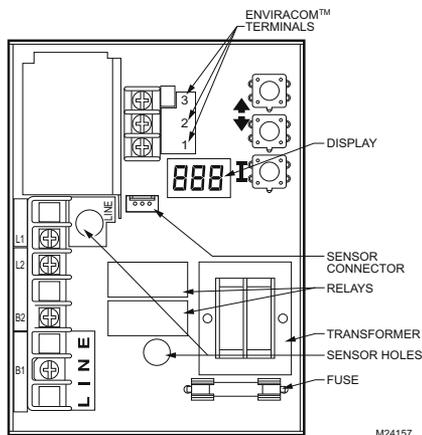

Fig. 3. Circuit board, showing sensor connection and well holes for vertical mount models.
4. Make sure sensor is fully seated to bottom of well. See Fig. 3. Use a small pencil to measure depth of sensor in well, if necessary.
5. Connect sensor to circuit board by pressing connector on sensor unit into mating connector on circuit board (Fig. 3).